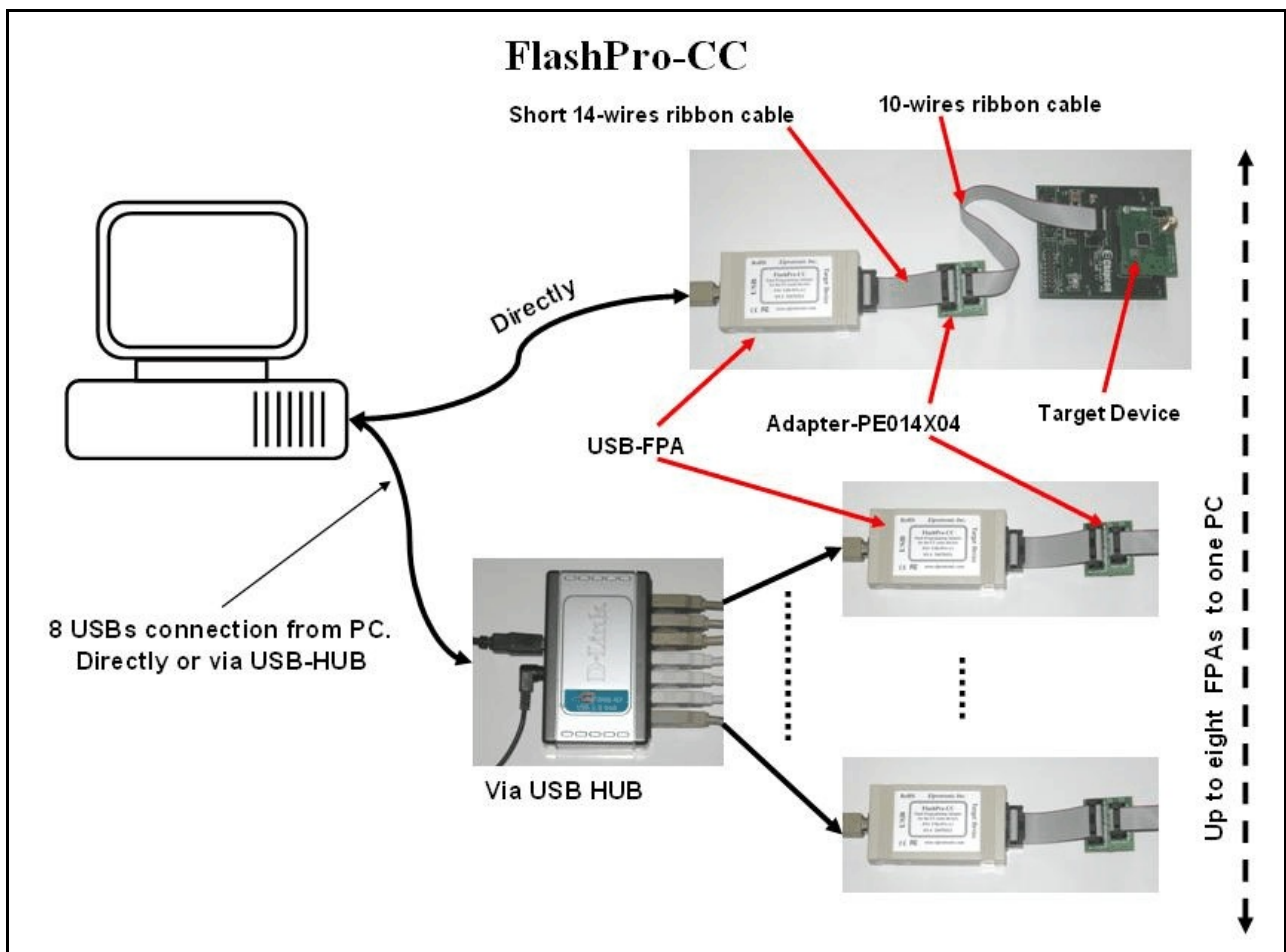

Figure 3.2-1
1. Connect the USB-FPA Flash Programming Adapter to the PC USB Port or via USB-HUB using provided cable extender (USB-A to USB-B) (see figure 3.2-1).